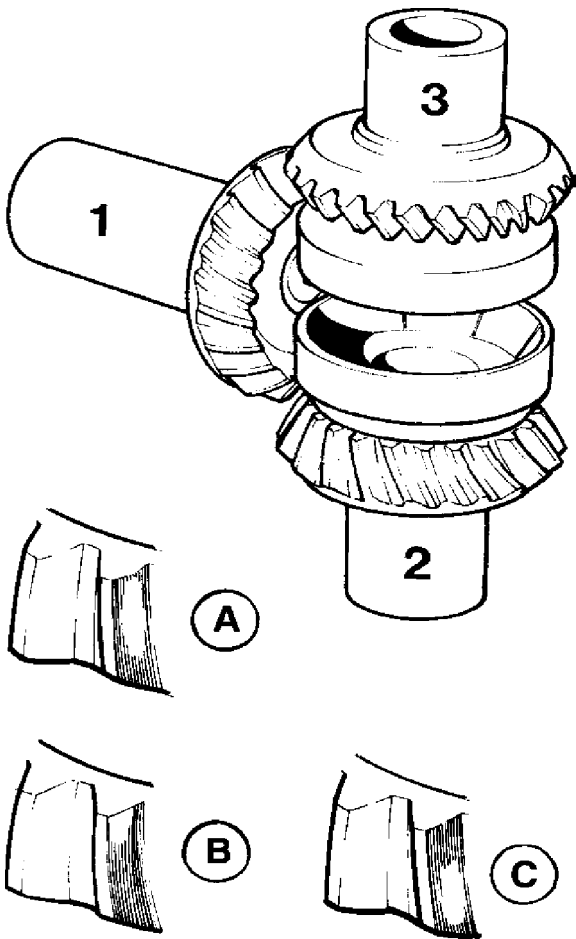

Fig. 15.
8. Remove the gear assembly and compare the contact pattern on the teeth with the pattern shown in Fig. 15 (A). This shows the ideal tooth contact on the drive side which should be aimed at for both the input drive 1 (the double bearing box) and gears 2 and 3 ("forward" and "reverse" gears respectively). The contact pattern is practically oval in shape and, on the drive side, is on the centre of the tooth vertically but displaced towards the toe.
9. If the contact pattern is like (B), Fig. 15, the thickness of shims should be reduced under drive 1 (the dou-